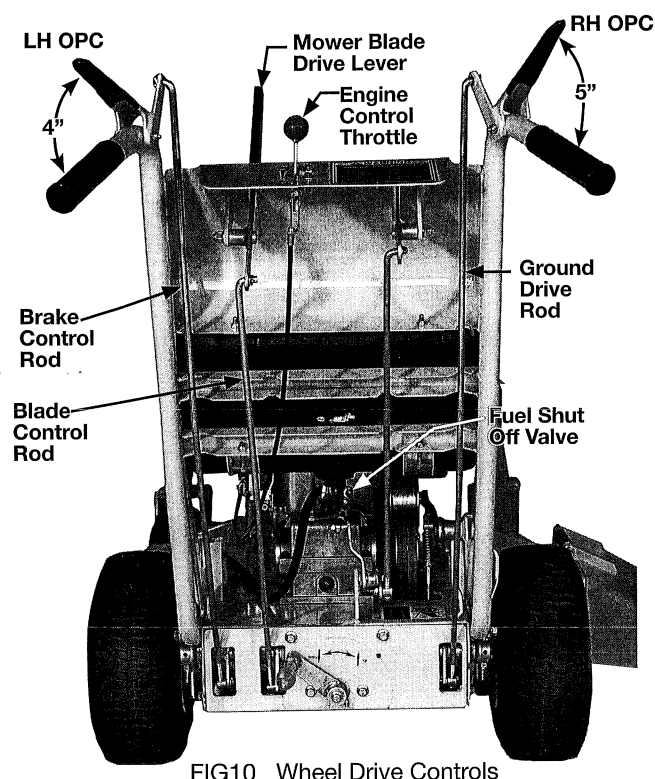

FIG10 Wheel Drive Controls
## WHEEL DRIVE CONTROLS ADJUSTMENT FIG 10
2. Adjust Linkage to give LH OPC travel of 4" and RH OPC of 5" FIG. 10.
## BLADE DRIVE LEVER ADJUSTMENT FIG 10